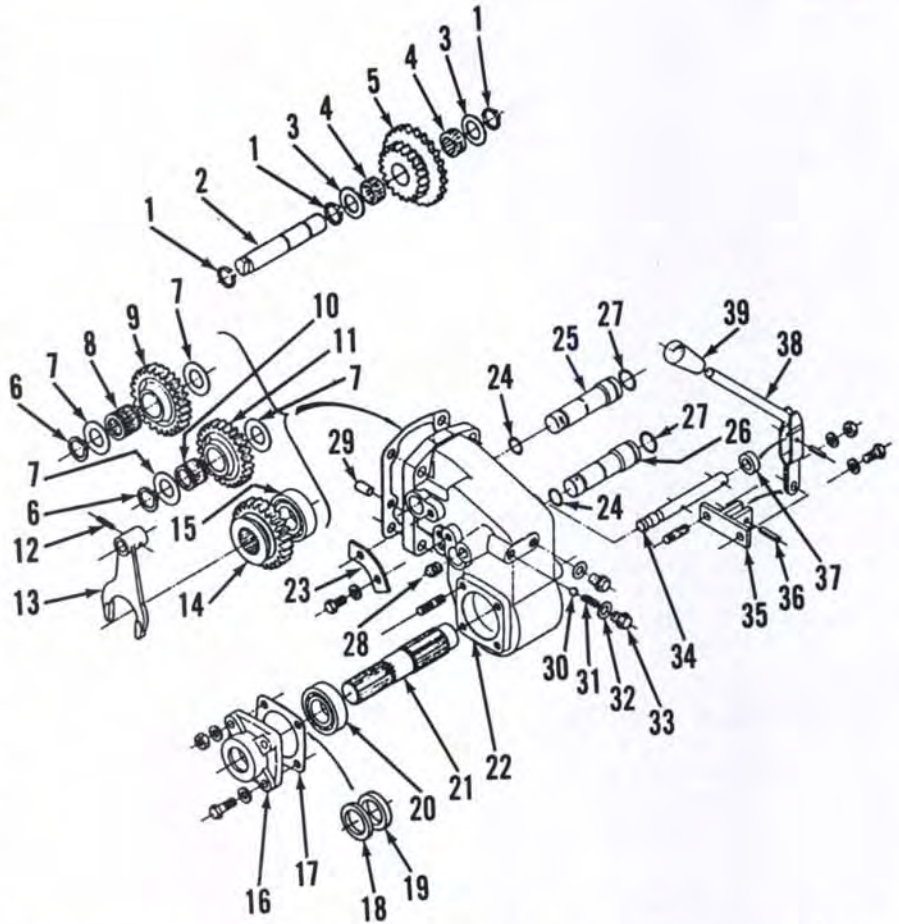

Fig. 6—Exploded view of transfer case assembly and associated components used on Model L225DT.
reference to Fig. 6. Inspect bearings for roughness, corrosion, cracks, excessive wear or any other damage. Inspect all shafts for excessive wear or any other damage. Examine all gears and splines for chipped, cracked, missing or excessively worn teeth. Inspect housing (22) for cracks, excessive wear or any other damage. Renew all parts as needed.